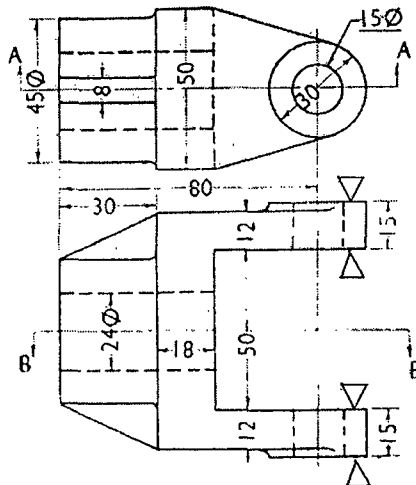

Fig.13.a
13. a) Design a Milling fixture for machining the faces marked Δ in the component shown in Fig. 13.a
- i) Give a neat operation chart. (2)
- ii) Draw two views of the Fixture. (13)
- iii) Specify appropriate fits and tolerances for critical parts. (2)
- iv) Dimension the views and give a neat parts list (3)